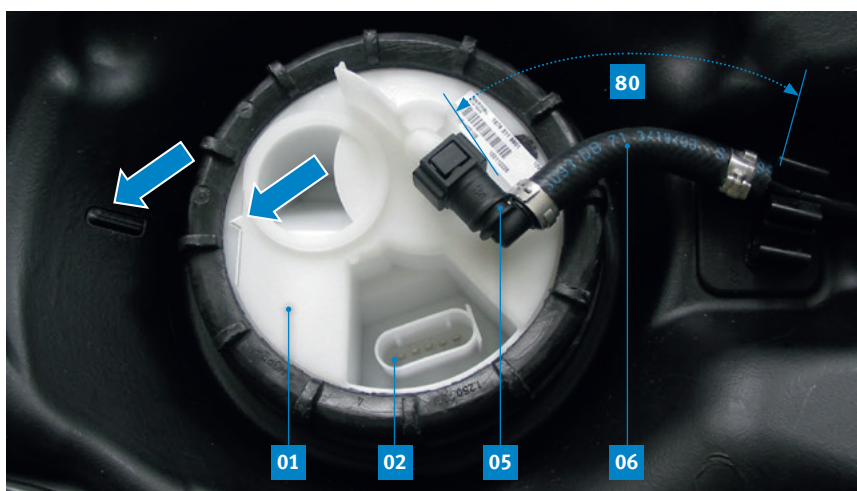

Fig. 5: Flange cover of the fuel tank sender unit
Insert the fuel delivery module and fuel tank sender unit into the fuel tank so that the arrow on the flange cover points towards the marking on the fuel tank (Fig. 5).
When replacing the fuel tank sender unit (01), the piece of tubing (06) of the flow line must be shorted to approx 80 mm, and the 90° quick connector (05) enclosed must be mounted (Fig. 5).